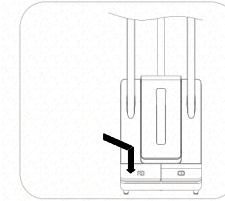

Fig. 16
- Pull the power cord, socket on, open the power switch. Fig .16